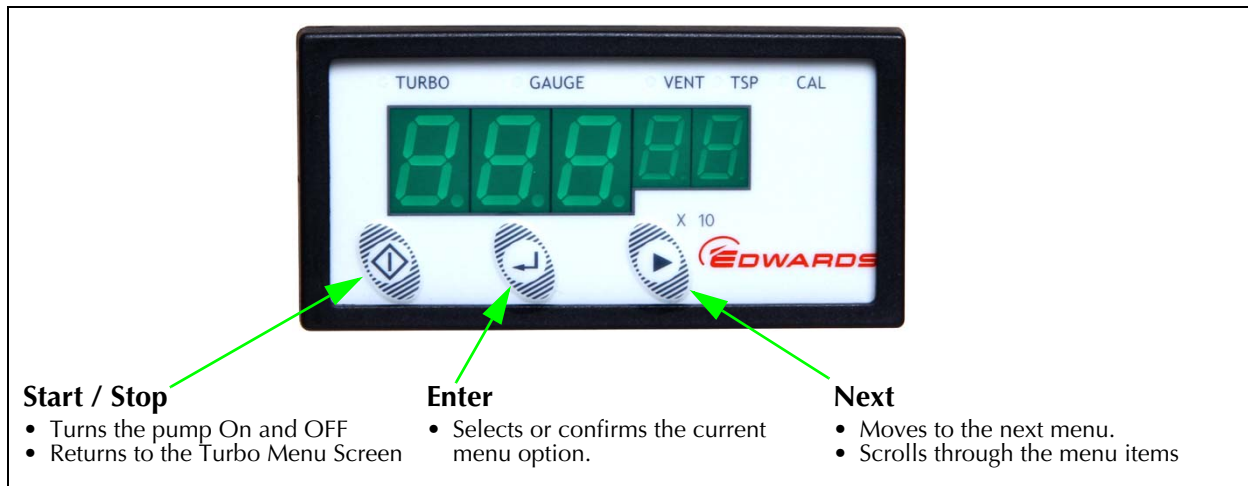

Figure 5-2 Turbo Pump Controller
5. Turn ON the turbo pump. Press the Start/Stop button on the left side on the Turbo Pump Controller. See Figure 5-2. The top left portion of the percentage sign will flash, indicating that the turbo is accelerating. When the turbo pump reaches >80%, the percent sign stops flashing. The display should read 100% when the pump reaches full speed.